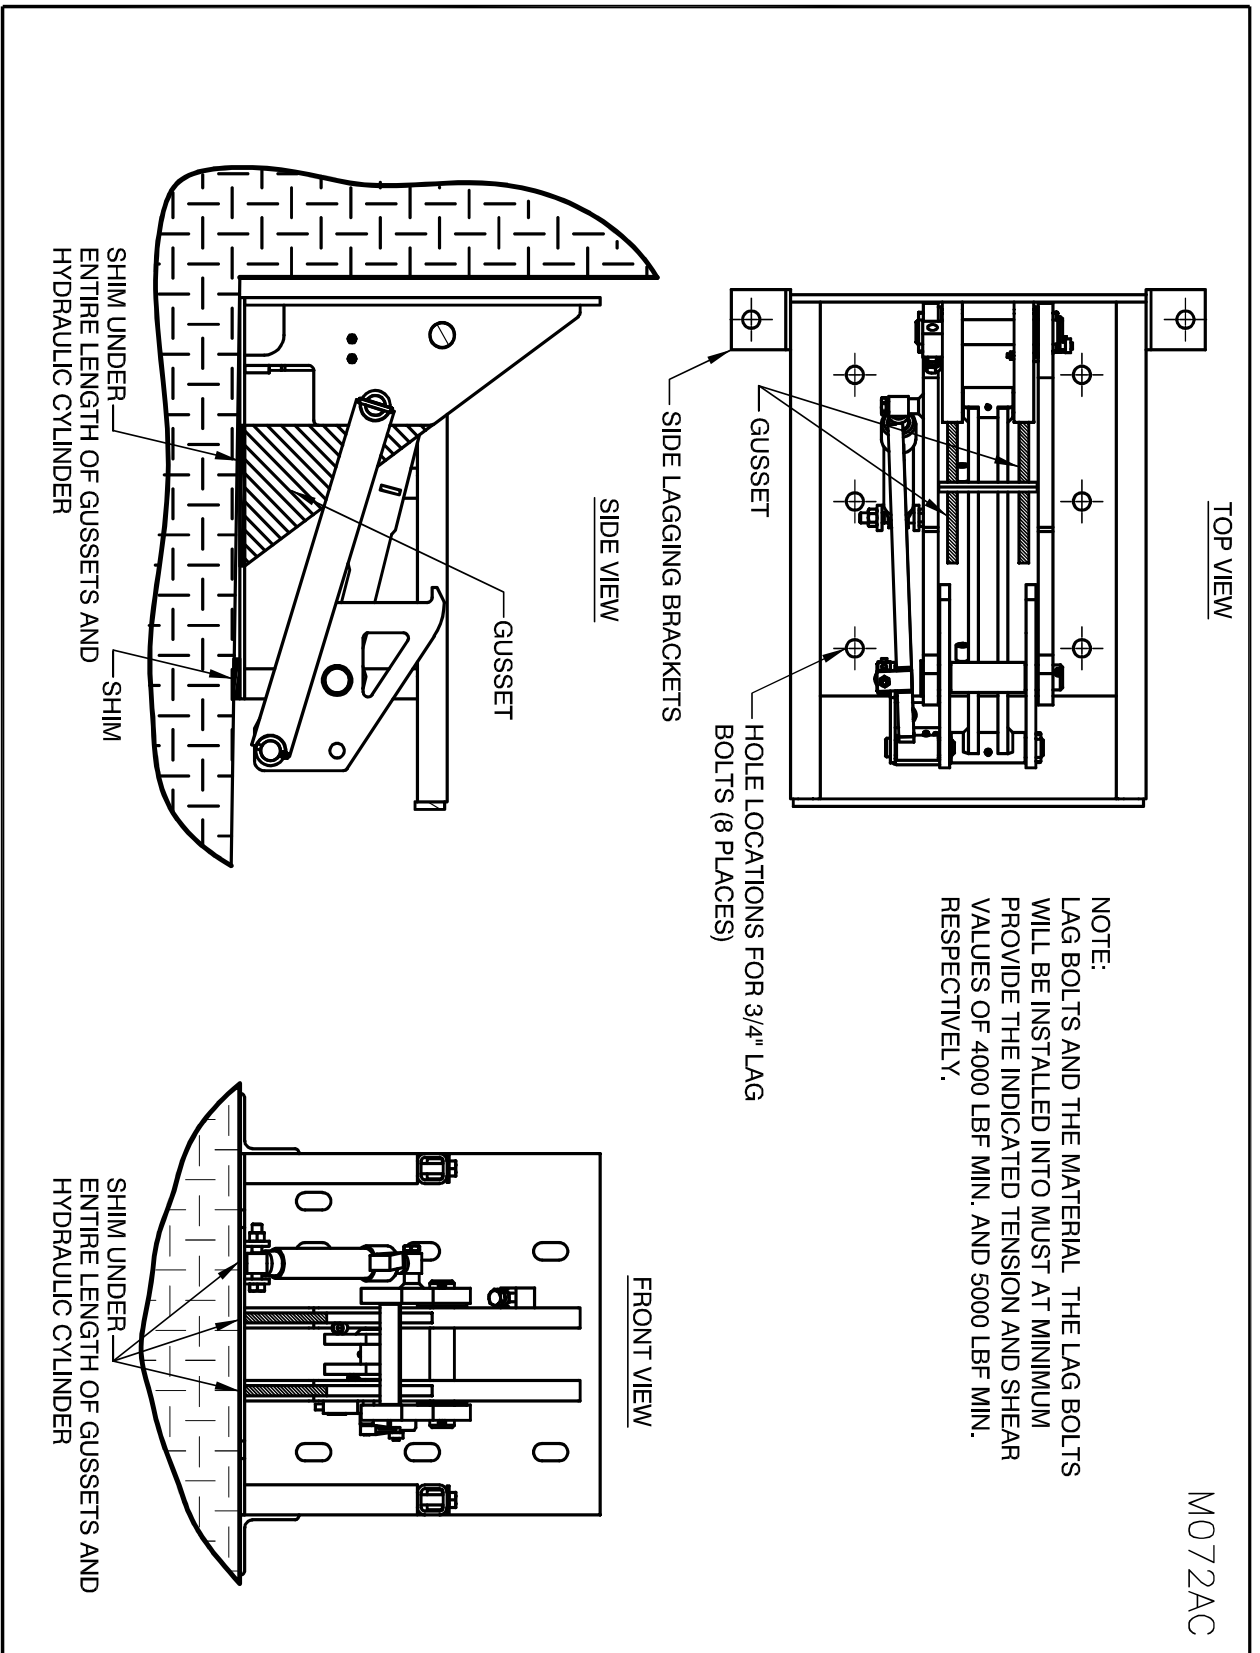

Figure 11: Horizontal Surface Mounting Installation
If the intent is to surface mount the vehicle restraint on a horizontal surface (typically the loading dock driveway) without attaching it to the loading dock wall face, the first step is to confirm the restraint has been ordered and provided to accommodate surface mounting. Note the standard HFR32 is not suitable for surface mounting (without attachment to the loading dock wall face) and must be ordered and built optionally to the model HFR32SM to accommodate surface mounting. To confirm, review the vehicle restraint serial number plate. The model number should be indicated as HFR32SM. Also confirm the gussets, side lagging brackets and holes in the horizontal base plate are present as shown (see "Figure 11: Horizontal Surface Mounting Installation" on page 16).
As well, confirm the installation surface in combination with the lag bolts (supplied by others) to be used for the installation has suitable strength to accept the forces as indicated in "Figure 11: Horizontal Surface Mounting Installation" on page 16. Note: Asphalt is typically not a suitable surface. Typically concrete of a sufficient depth and strength is required to accommodate the forces and loads as indicated.
1. ☐ Inspect the HFR32SM. Confirm that the HFR32SM is configured for surface mounting. The optional horizontal surfacing mounting option consists of a series of holes in the bottom plate to accommodate the lagging as well as additional gusseting (see "Figure 11: Horizontal Surface Mounting Installation" on page 16)
7. ☐ Use a level to ensure that the HFR32SM is level side to side and front to back. Shimming may be required. All shims must be welded together and to the bottom of the HFR32SM. It is critical to ensure that the bottom of the HFR32SM make full contact with the supporting surface or grade especially underneath the gussets and hydraulic cylinder as indicated "Figure 11: Horizontal Surface Mounting Installation" on page 16. Make sure no voids exist under these areas.
8. ☐ Lag the HFR32SM to the supporting surface using 3/4" diameter lag bolts (minimum shear force: 5,000 lbf; minimum tension value of 4,000 lbf). **Note: Lagging bolts are supplied by others. The lag bolt must provide the indicated tension and shear values. Follow the lag bolt manufacturer's instructions for installation as well as shear and tension values. Confirm the installation location is constructed to withstand the specified forces for the lag bolts. (see "Figure 11: Horizontal Surface Mounting Installation" on page 16)**